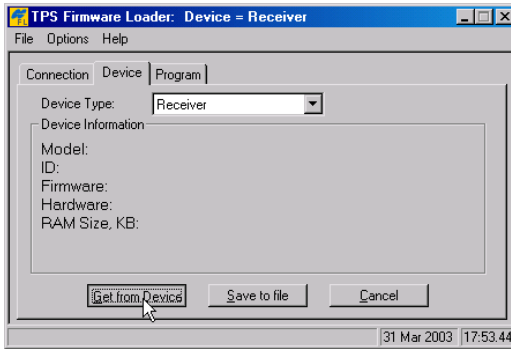

Figure 4-14. Set Device Type
1. In FLoader, click the **Device** tab and set the *Device Type* as “Receiver”. Then click **Get from Device** for device information (Figure 4-14 on page 4-24).